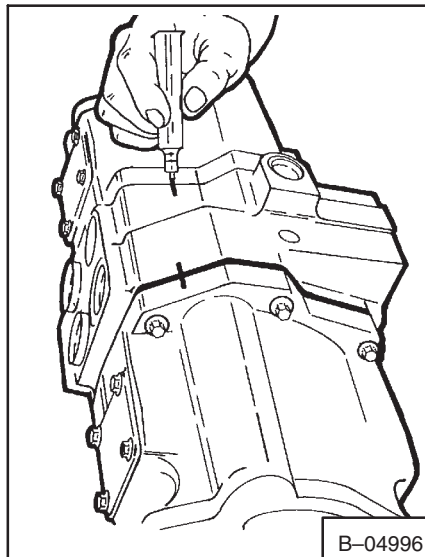

Fig. 3-97 Marking Pump Sections
3. Put a mark across all the pump sections for correct assembly (Fig. 3-97).